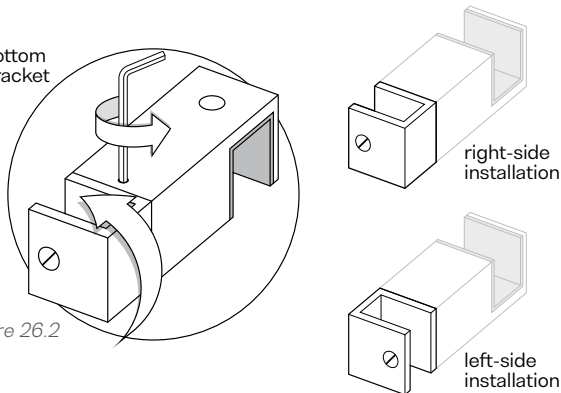

Figure 26.2
- Loosen the hex screw on the bottom of the Floor Bracket (**M.**). Rotate the fixed panel clip end to fit the Fixed Panel (**A.**) for left or right-side installation. Re-tighten hex screw after completing adjustment (Fig. 26.2).